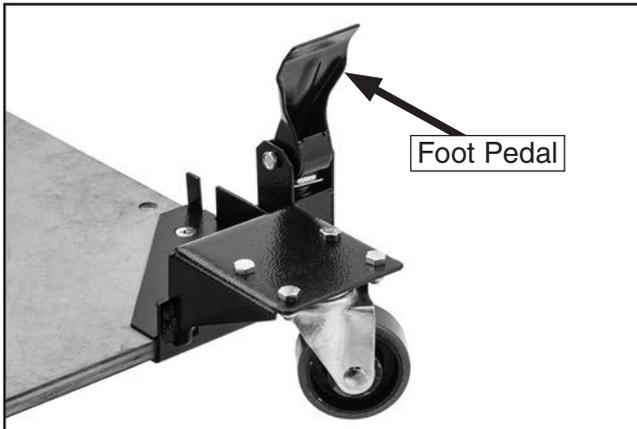

Figure 10. Foot pedal raised.
4. Raise foot pedals up to lift rubber feet and move machine (see **Figure 10**).